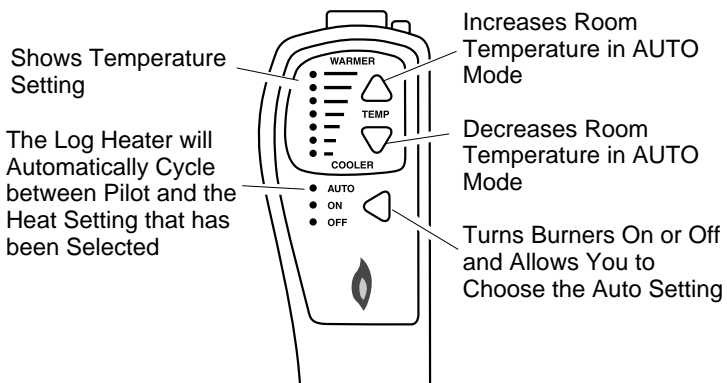

Figure 30 - Thermostat Hand-Held Remote Control Unit Selections (GHRCT Series Only)
- Press the AUTO/ON/OFF button on the hand-held remote control (see Figure 30, page 16). The lights to the left of the button will show AUTO, ON, or OFF.